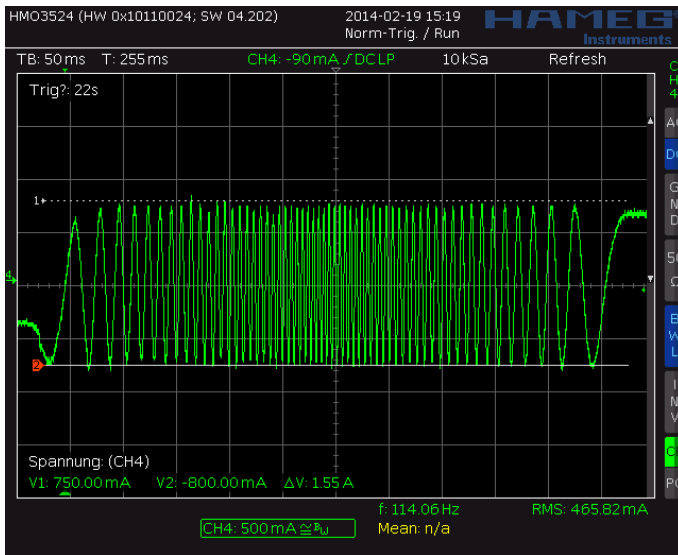
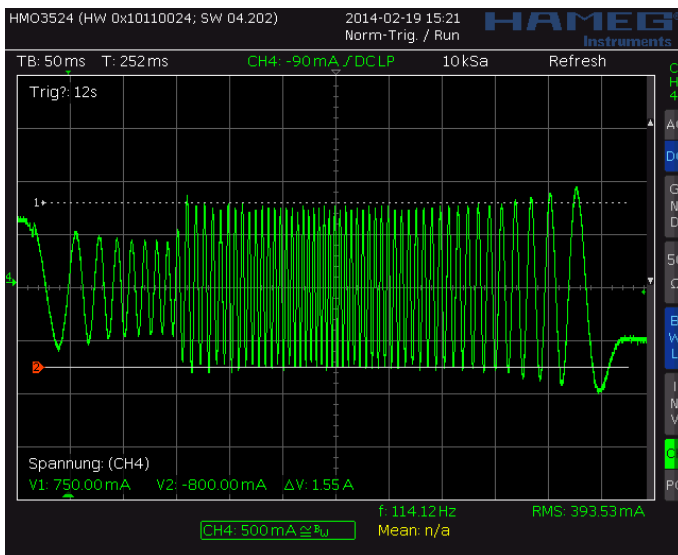
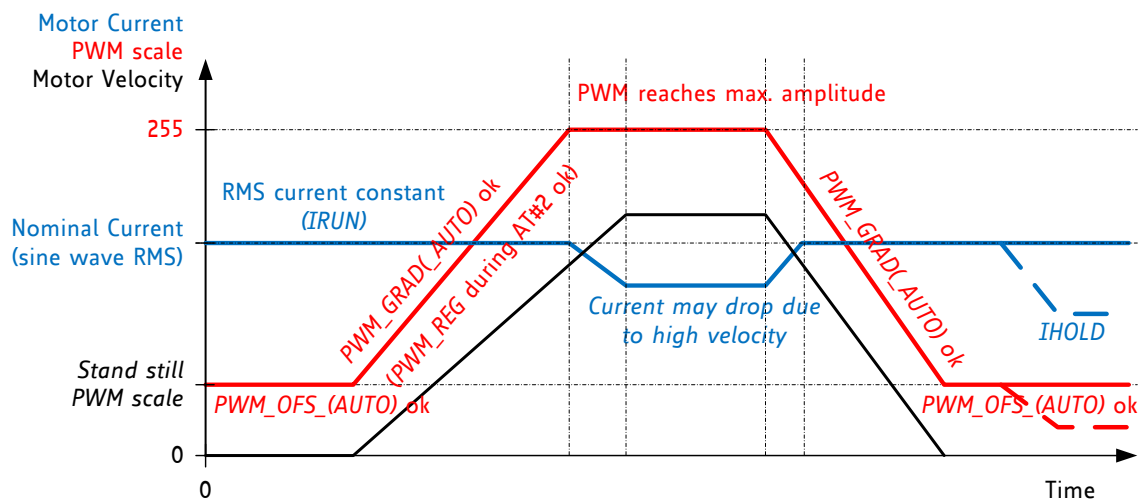

Figure 6.3 Scope shot: good setting for PWM_REG
Figure 6.4 Scope shot: too small setting for PWM_REG during AT#2
Figure 6.5 Successfully determined PWM_GRAD(AUTO) and PWM_OFS(AUTO)
In StealthChop voltage PWM mode, the autoscaling function ($pwm_autoscale = 1$, $pwm_auto_grad = 1$) regulates the motor current to the desired current setting. Automatic scaling is used as part of the automatic tuning process (AT), and for subsequent tracking of changes within the motor parameters. The driver measures the motor current during the chopper on time and uses a proportional regulator to regulate PWM_SCALE_AUTO in order match the motor current to the target current. PWM_REG is the proportionality coefficient for this regulator. Basically, the proportionality coefficient should be as small as possible in order to get a stable and soft regulation behavior, but it must be large enough to allow the driver to quickly react to changes caused by variation of the motor target current (e.g. change of $VREF$). During initial tuning step AT#2, PWM_REG also compensates for the change of motor velocity. Therefore, a high acceleration during AT#2 will require a higher setting of PWM_REG . With careful selection of homing velocity and acceleration, a minimum setting of the regulation gradient often is sufficient ($PWM_REG=1$). PWM_REG setting should be optimized for the fastest required acceleration and deceleration ramp (compare Figure 6.3 and Figure 6.4). The quality of the setting PWM_REG in phase AT#2 and the finished automatic tuning procedure (or non-automatic settings for PWM_OFS and PWM_GRAD) can be examined when monitoring motor current during an acceleration phase Figure 6.5.